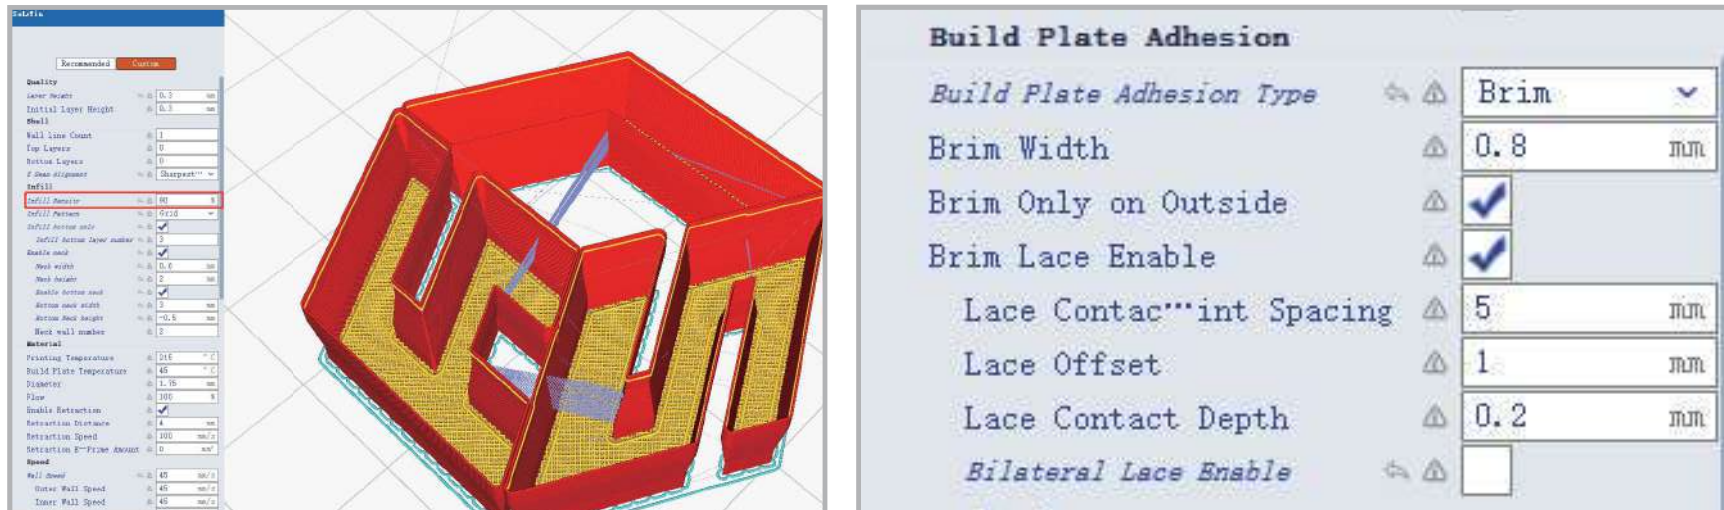

Figure1-44
- Side skirt: also known as anti-warping fancy border, which could adjust parameters such as fancy border type, inside/outside, times, spacing, offset depth, single/double fancy border according to requirements (Figure 1-44).